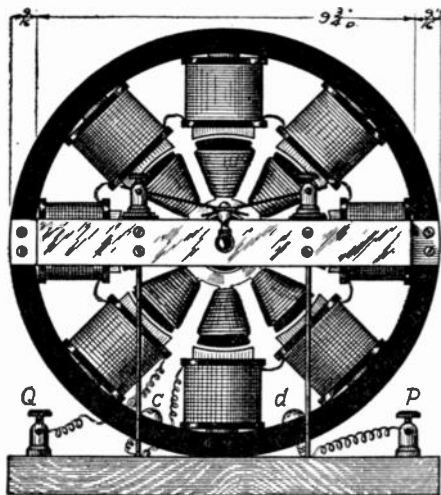
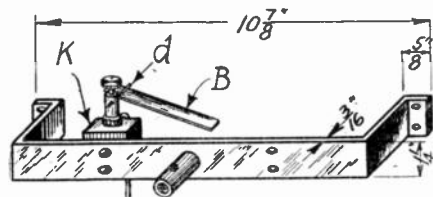
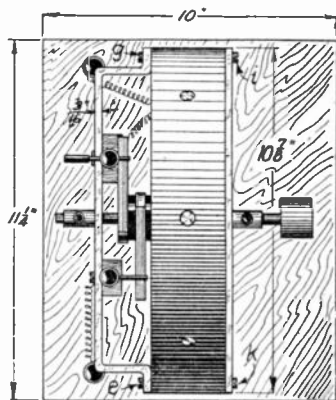
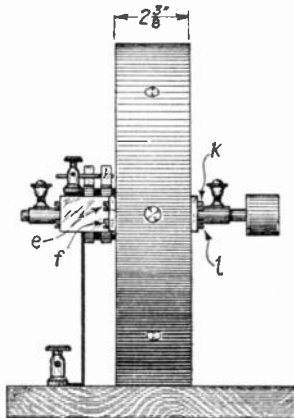

Fig. 1. General view of a multi-polar dynamo or generator arranged for giving alternating current.
Fig. 6. Shaft bearing and brush support to be seen also in Figs. 1, 8 and 9.
Fig. 8. Plan view of the completed generator, showing the brushes and the holes receiving the ends of the stator cores.
Fig. 9. End view of the same, showing substantially the same parts.
Fig. 8. How the instruments just described can be connected into a radio hook-up for measuring A-battery voltage, B-battery voltage, frequency and other data of the system.
Figure 1 shows the general layout of the machine.
The field consists of a forged ring, seen clearly in Figure 1, 9 3/4 inches internal diameter, 2 3/4 inches wide, 9/16 inch thick. It is best turned out on a lathe, otherwise it will have to be worked out with a file. It is now divided into eight equal arcs and a 5/16 inch radial hole in which
Before fastening the bobbins in place and riveting up the field magnets, we must drill holes in the ring for receiving the screws (c), (d), Figure 1; (i) and (k), Figure 9 and (l), Figure 8. The holes (c), (d) serve to screw the ring down upon a baseboard. The others are for screwing the various fittings for the field ring.
We now come to the winding. Each pole is to receive two layers of double cotton covered wire, 26 mils diameter, beginning to wind it from the base outward. As shown in Figure 6, each alternate core is wound in a reverse direction, so that the cores are of north and south poles alternating all around. Each layer of wire is gone over with shellac solution
The shaft is best made of steel; a round piece of bar steel, eight inches long, and nearly half an inch in diameter is used. At Figure 8 (a) 1 1/4 inches of the shaft, at (b) 2 3/4 inches of the shaft are turned down to a thickness of 5/16 inch. It is necessary to draw the temper and to anneal the steel in order to be able to work it. This is done by heating it to a
red heat and letting it cool slowly by burying in hot ashes and allowing the whole mass to cool, or by embedding it in pulverized quick lime and allowing it to cool there. If we have carried out the operation correctly, we can harden it again by bringing it to a red heat and then immersing it quickly in oil. In Figure 8 the rotor is seen with its two slip rings on the left for the collector.
ginning and end of the rotor windings are now brought to the slip rings, one end to each ring, and are soldered thereto. Care must be taken that the end which is fastened to the outside ring and passes through a groove or pole drilled in the inner ring, be insulated therefrom by fibre or the equivalent. The driving pulley on the extreme right of the shaft in Figure 8 is firmly keyed or fastened. It is made of wood and is about $1\frac{1}{8}$ to 2 inches in diameter and of the same width.
The bearing frame which crosses the ring at its horizontal diameter is seen in Figures 1, 6, 8 and 9. We use for this strips of brass $\frac{3}{16}$ inch thick and $1\frac{1}{4}$ inch wide. One piece to be seen on the right of Figures 8 and 9 is a straight piece $10\frac{7}{8}$ inches long; it has in the center the hole for the shaft bearing and at its ends four holes for screws or tap bolts to fasten it to the field ring. The front bearing strip is bent and offset at each end as shown in Figure 6. The ends which receive the screws for fastening to the ring are each $\frac{5}{8}$ inch long so that the straight part must be $9\frac{5}{8}$ inches long. The hole for the shaft bearing is in its center.
The shaft bearings are made of brass tube of rather thick wall, in which the shaft turns freely, but without shake. These tubes are soldered in the brass cross-pieces. It is all important that the rotor shall be perfectly centered with reference to the pole faces of the stator. In Figure 6 will be seen a hole in the brass tube for lubrication.
thin copper strips, hard tempered, $\frac{3}{8}$ inch wide and $3\frac{1}{2}$ inches long. They are soldered to small transverse pieces of brass wire (d), Figure 6, which are held by binding posts. These binding posts Figure 6, are attached to blocks of wood (K), which are screwed to the brass strip carrying the shaft bearings. These blocks, one of which is seen in Figure 6, are made of hard wood about $1\frac{1}{2}$ inches high, 1 inch wide and 1 inch thick. From the binding posts two copper wires 80 mils thick run down to the baseboard. Each brush rubs upon its own collector ring and takes current therefrom.